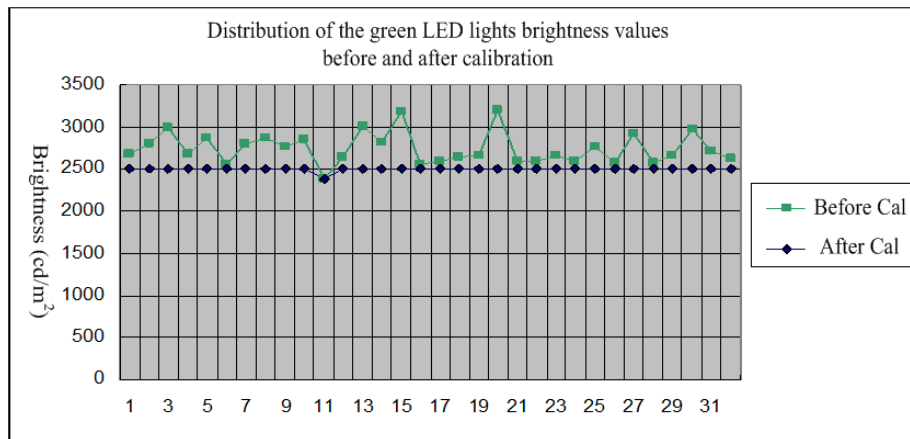

Fig. 13-7 Brightness Values Distribution Before and After Calibration
**Brightness calibration:** Brightness calibration is to adjust the brightness of LED lights to improve the brightness uniformity. In the brightness calibration, brightness of most lights will be properly lowered. Fig.13-7 shows an example of brightness adjustment of green LED lights, in which there are two brightness distribution curves corresponding to before and after calibration (adjustment) respectively. Before calibration, the brightness values of green LED lights are scattered between 2400 – 3300 cd/m2, but after calibration those are concentrated almost at 2500 cd/m2, representing high brightness uniformity.